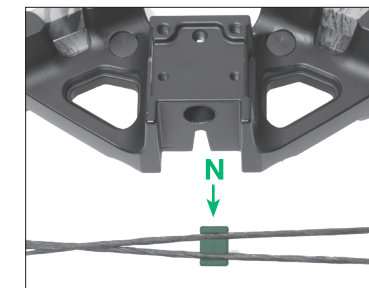

FIGURE 3
- 1a** Attach the cable slide to the cables. The cable slide has a larger gap on one side to properly slide onto the rail. (Fig. 3)